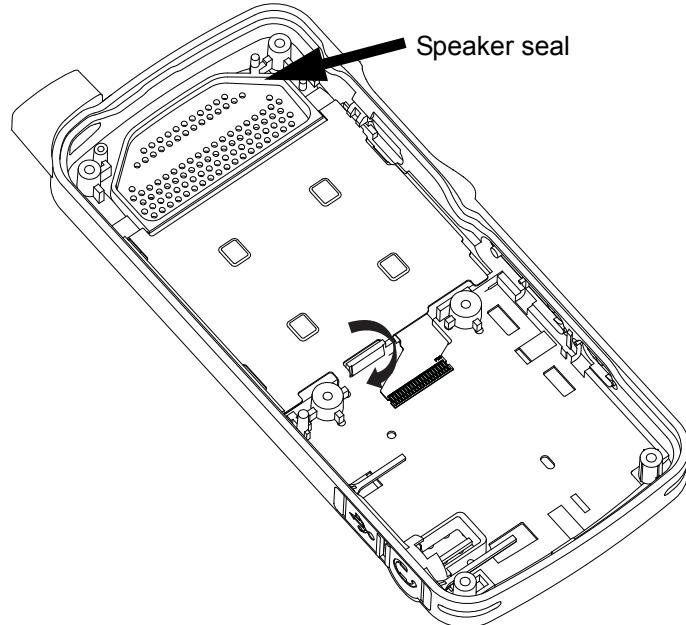

Figure 5-17. Display retainer lock removal
6. Unlatch the display retainer lock as shown in Figure 5-17.